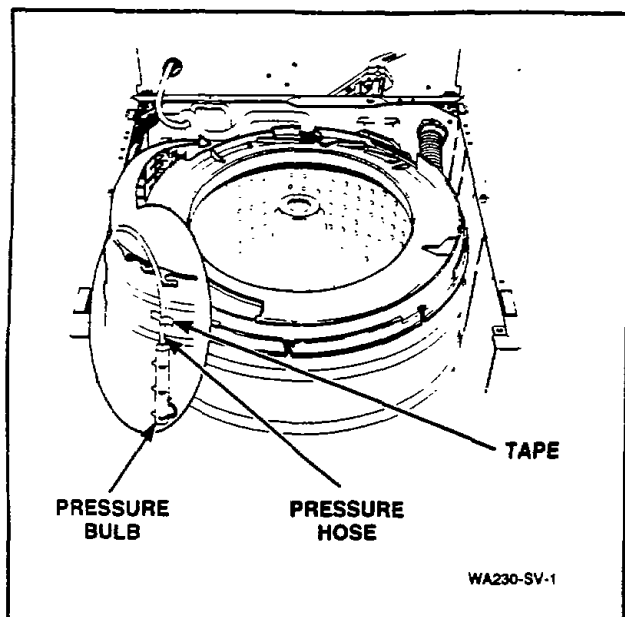

Figure 62
- t. Remove pressure hose from pressure bulb. Then remove tape holding pressure hose to outer tub, *Figure 62*.
- i. Remove pressure hose from pressure bulb. Then remove tape holding pressure hose to outer tub, *Figure 62*.
- Remove pressure hose from pressure bulb. Then remove tape holding pressure hose to outer tub, *Figure 62*.